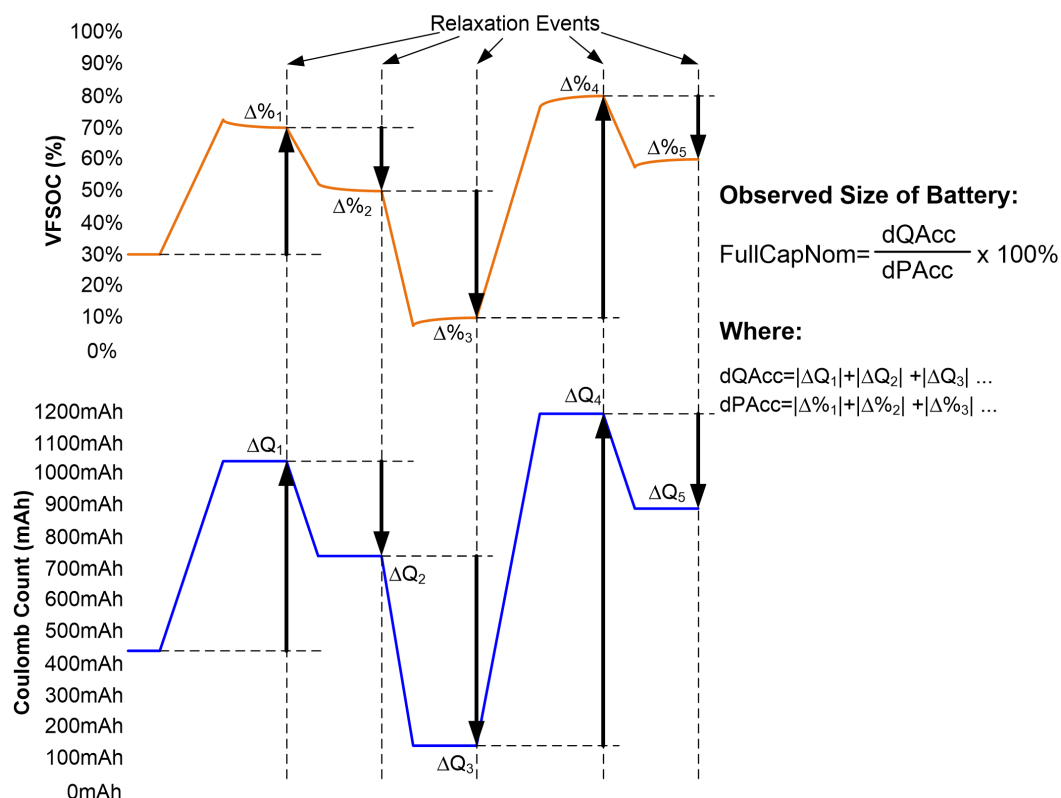

Figure 4. ModelGauge m5 learns full capacity during arbitrary cycling.
| Figure 4. ModelGauge m5 learns full capacity during arbitrary cycling. | 11 |
- **Cell Capacity (FullCapNom Register).** This is the total cell capacity at full, including some capacity that sometimes is not available to the application due to high loads and/or low temperature. The IC periodically compares percent change based on an open circuit voltage measurement vs. coulomb-count change as the cell charges and discharges, maintaining an accurate estimation of the pack capacity in mAh as the pack ages. See Figure 4.